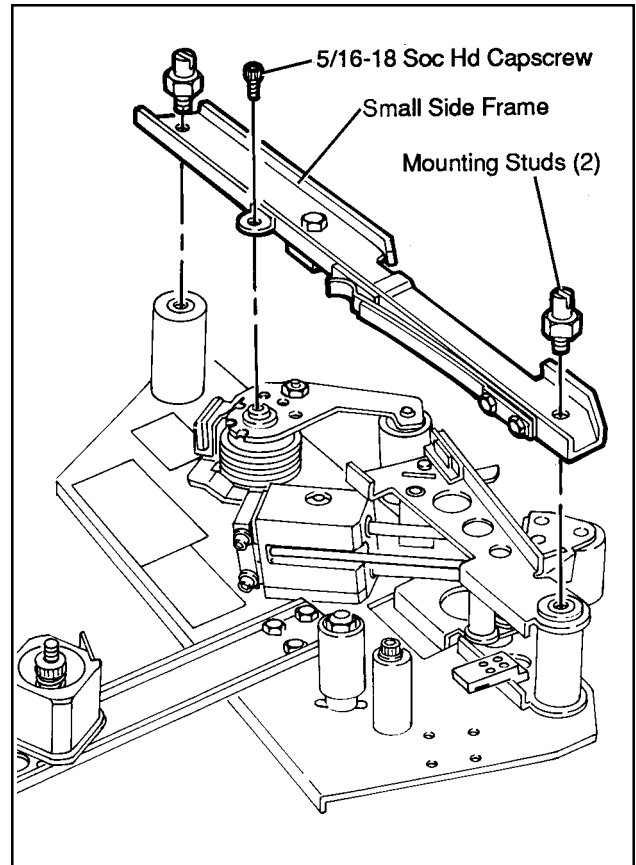

Figure 2-17
8. Replace the small side frame on the taping head with (2) mounting studs and 5/16-18 socket head cap-screw that hold buffering arm assembly. See Figure 2-17.